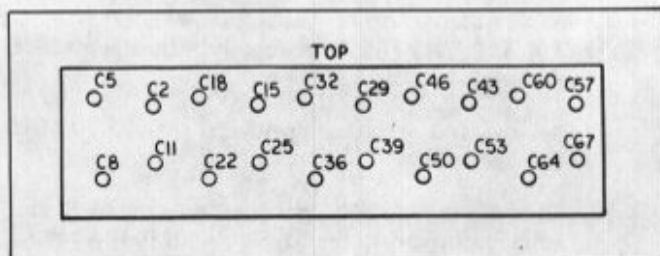

Figure 2-23. Trimmer Access Hole Locations, A10
2.5.33 A9, A10, A11 and A5 Assembly Adjustments (See Figures 2-23 thru 2-26)